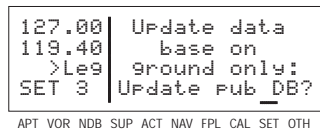

Figure 2-2
4. Turn on the KLX 135. Press **[ENT]** as required to approve the Self Test, Initialization, VFR, and Data Base pages. Use the right outer knob to select the Setup (SET) type pages and the right inner knob to select the SET 3 page (figure 2-2).
NOTE: In step 6, repeated pressing **[CLR]** will terminate the update process and bring the display back to the original SET 3 page shown in figure 2-2.